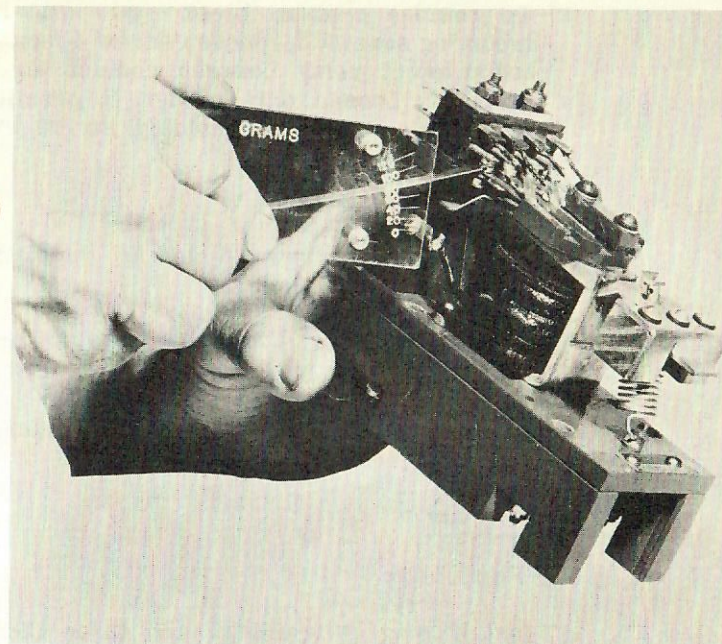

**Fig. 18-20**
- (1) Use 0.032-inch diameter wire as a feeler gage to measure contact-tip gap. Close armature to check gap of normally-closed contacts.
- (2) Place the 0.032-inch diameter wire between armature stop and armature (relay open) and bend stationary contacts (normally closed) until they just touch the movable contacts - Fig. 18-20.
- (3) Place the 0.032-inch diameter wire between the armature and the core (near top of core) and close armature. Bend stationary contacts (normally open) to just touch movable contacts.